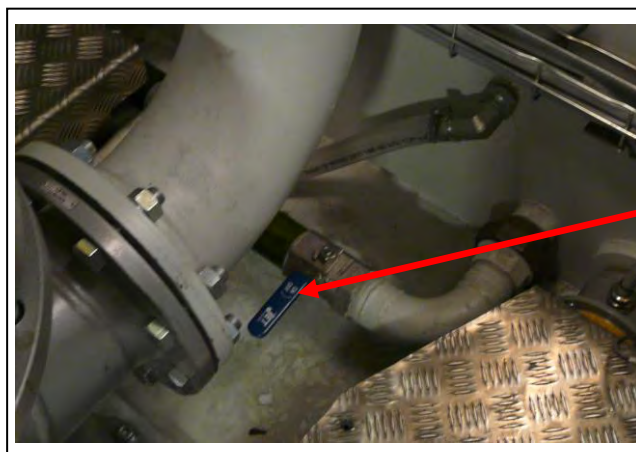

Figure 30 : Reservoir Drainage Valve
7. Pour into the machine reservoir the correct amount of wash chemical as shown in table Figure 30 below.